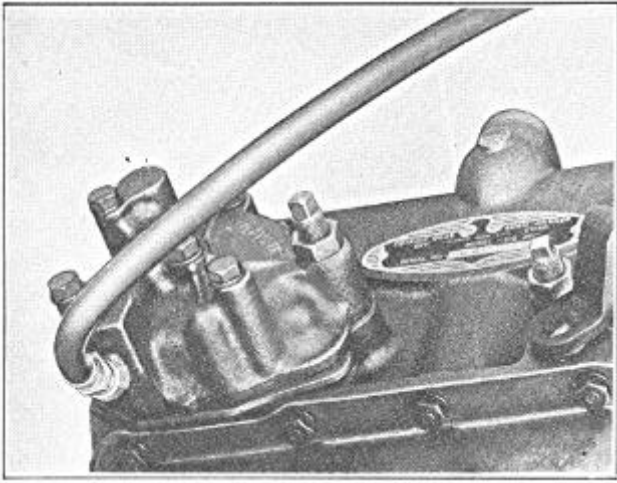

FIGURE 153
1. Remove the 1/8" pipe plug at the torque converter pressure take-off point, Figure 153.